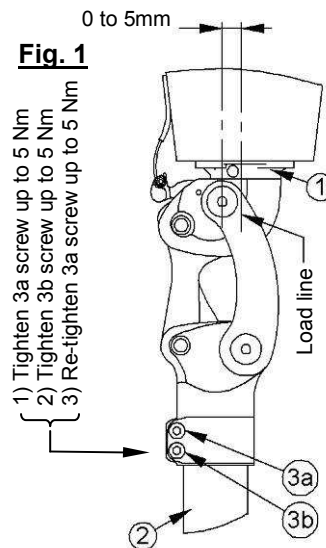

Fig. 1
B) CONNECTIONS (Fig.1)
C) ALIGNMENT (Fig.1)